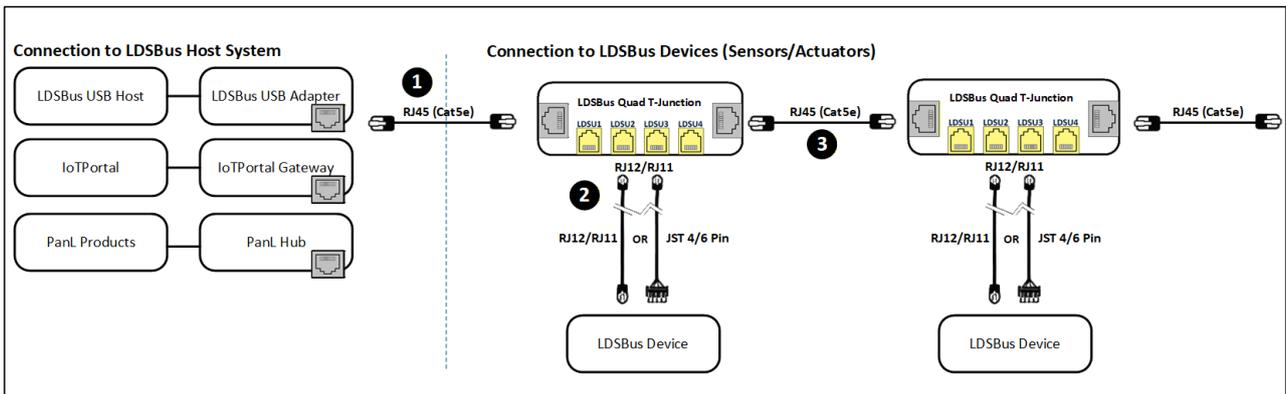

Figure 3 - Connection Diagram
Figure 3 illustrates the connection of the LDSBus Gas and TrueVOC Sensor (LDSBus Device) to the LDSBus. Please visit <https://brtsys.com/resources> to view the full device application, setup, and installation guides.
1. Figure 3.
2. Figure 3.
3. Figure 3.